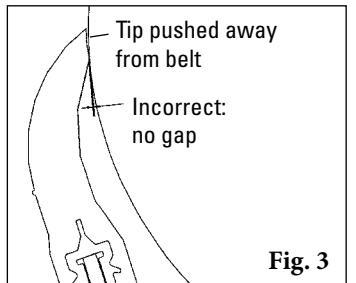

Fig. 3
- Pole location too far in - If there is no gap at the initial blade/belt contact (Fig. 3), the tip of the blade may not be touching the belt. In this case, the blade will push away and lose its shearing (cleaning) effect. The blade may also develop a flap at the tip which may trap material.